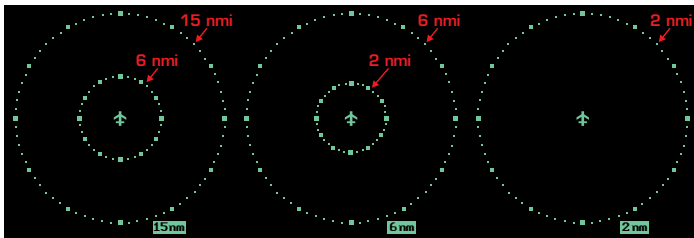

Figure 3-7. Display Ranges
1. Press the display range button to toggle the display range between 15, 6, and 2 nmi (figure 3-7).